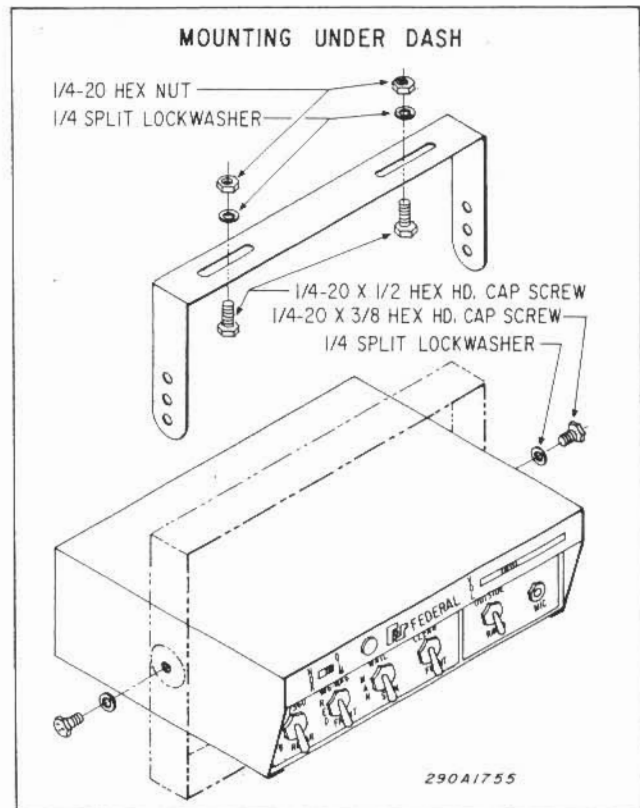

Figure 3-1. Installation of Model CC1 under the dash
Mount the siren in a location that is convenient and comfortable to the operator and where it will not interfere with the safe operation of the vehicle. Keep visibility and accessibility of controls in mind when choosing a location. To install the bracket under the dash, determine the mounting location and proceed as follows (see figure 3-1):
C. Secure the mounting bracket to the dash using two each of the following: 1/4 - 20 x 1/2 hex head screws, 1/4" split lockwashers and 1/4 - 20 nuts as shown in figure 3-1.